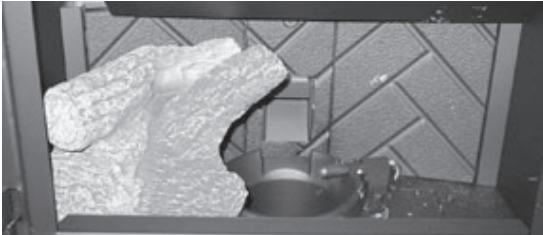

Figure 26.1
2. Install the left log first and then the right log (**Figure 26.1**).